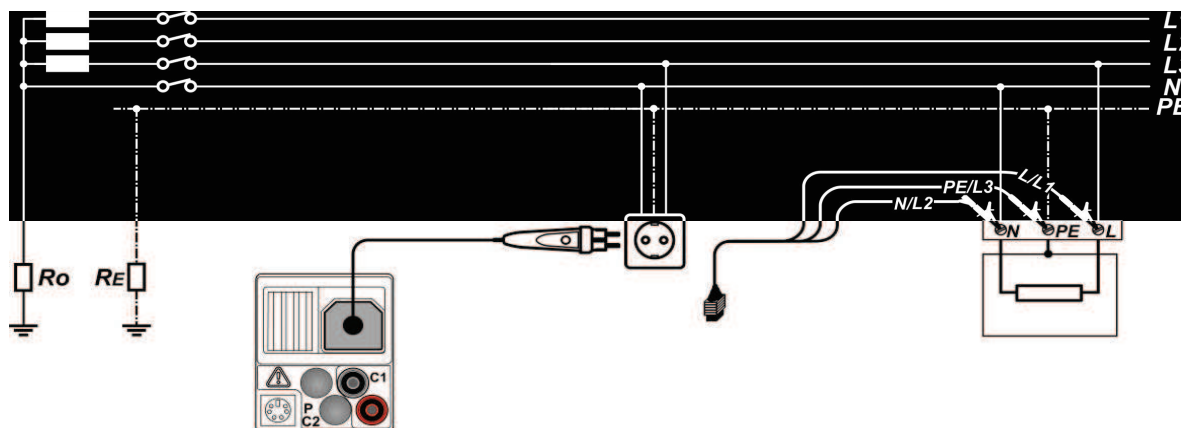

Figure 5.24: Connection of the optional "Commander" test plug (044149)
- ❑ Connect the test cables to the test object (see figure 5.24).